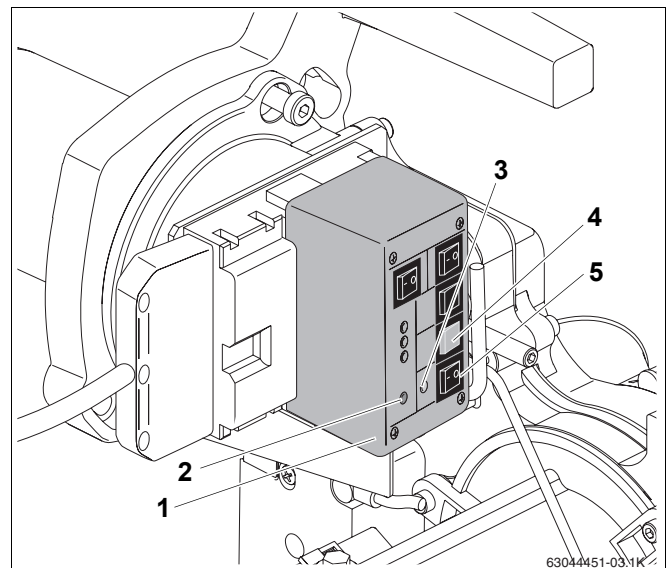

Fig. 11 Bleeding oil line with burner tester
- Burner tester (Fig. 11, **Item 1**; Accessory) – if the burner oil pump is to supply the oil.
The procedure for bleeding the oil line with the burner tester (Fig. 11, **Item 1**) is described below.
- Plug burner tester (Fig. 11, **Item 1**) into the base.
- Switch on control mode switch. The LED (red) lights (Fig. 11, **Item 2**).
- Switch on burner tester with the mode switch (Fig. 11, **Item 5**). Both LEDs (red and green) light (Fig. 11, **Item 2 and 3**).
- Switch on oil preheater (Fig. 11, **Item 4**) switch.